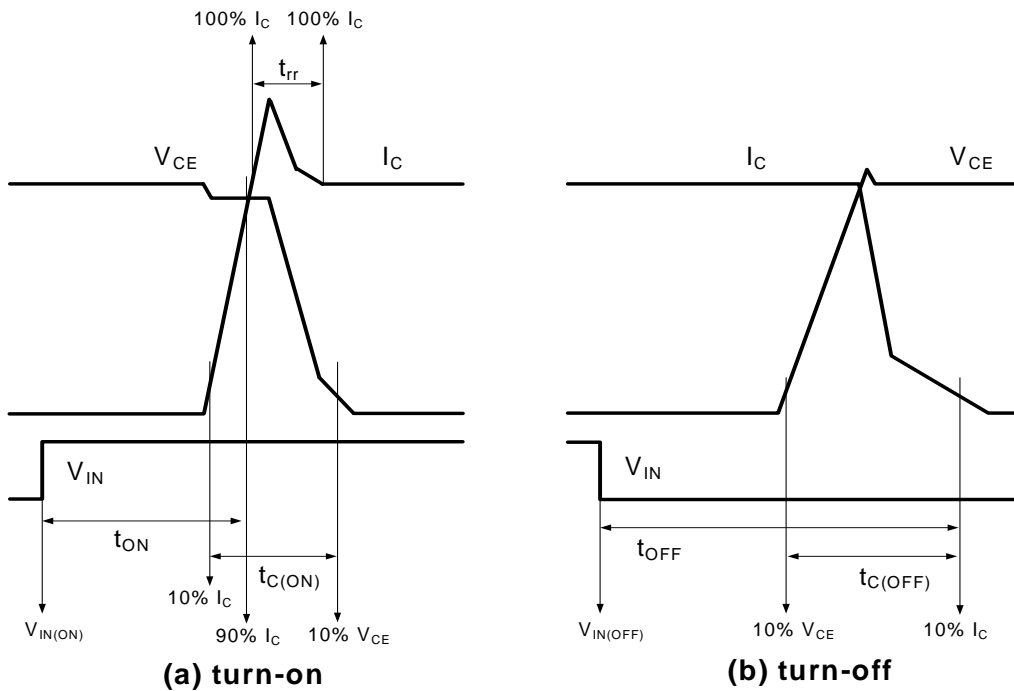

Figure 4. Switching Time Definition
4. t_{ON} and t_{OFF} include the propagation delay of the internal drive IC. t_{C(ON)} and t_{C(OFF)} are the switching time of IGBT itself under the given gate driving condition internally. For the detailed information, please see Figure 4.